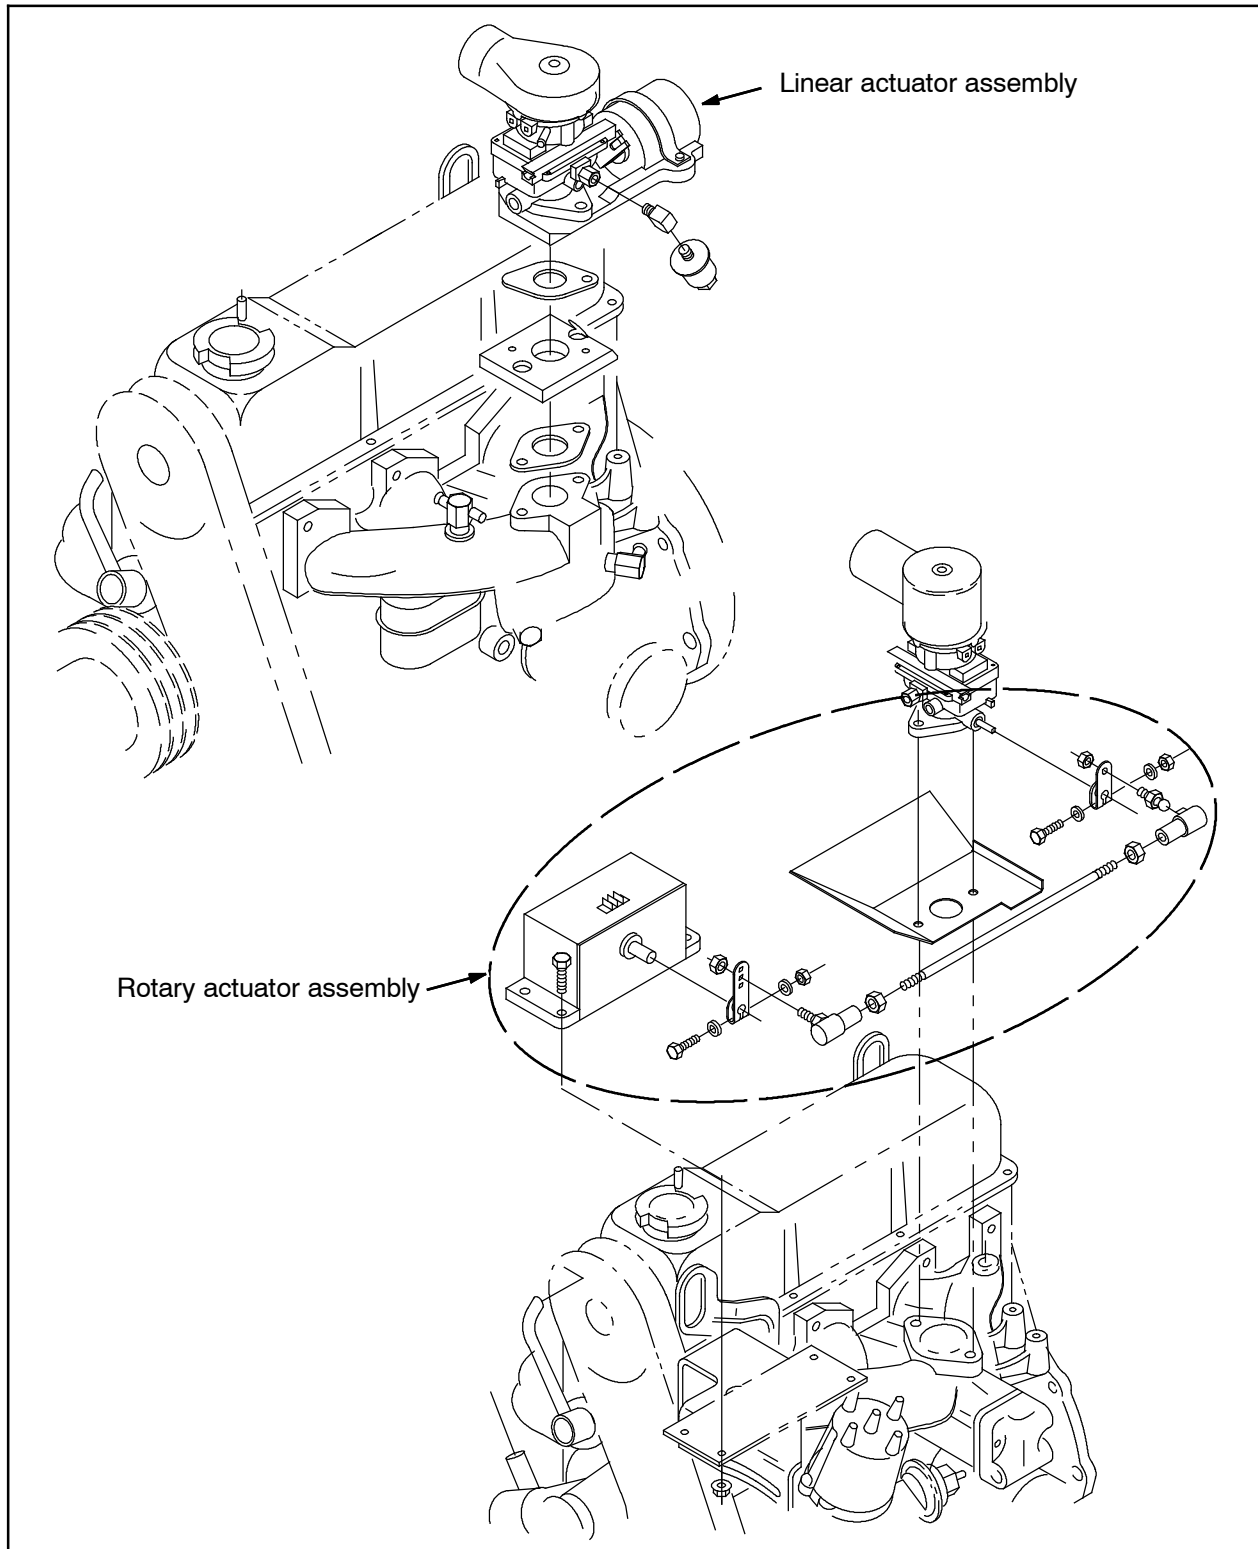

FIG. 1 - Rotary Actuator / Linear Actuator
1. Determine if machine is equipped with a rotary actuator or a linear actuator to control the fuel flow to the carburetor. The type actuator assembly will determine some dip switch settings. (Fig. 1)